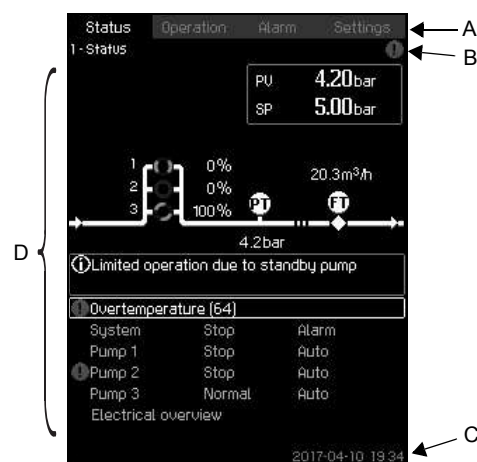

Fig. 13 Display design
The menu line (A) is illustrated in fig. 13.
The top line (B) is illustrated in fig. 13. It shows the following: